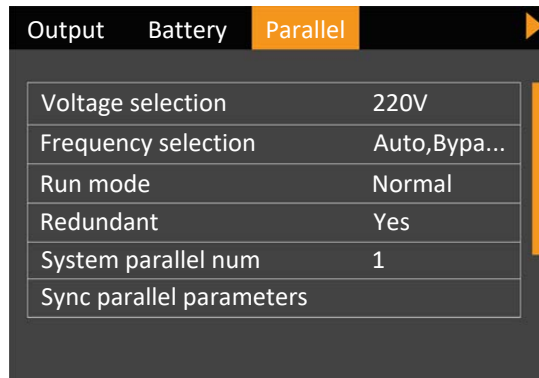

Figure 3-7 Settings for parallel parameters
The parallel parameters for all the UPSs in the parallel system should be set. As shown in Figure 3-7.
d) Close the external input switch of the added UPS. After the system power-on, find any online UPS, and enter the interface shown in Figure 3-7. Set the system parallel No. from 'N' to 'N+1', then click the 'Sync parallel parameters'.